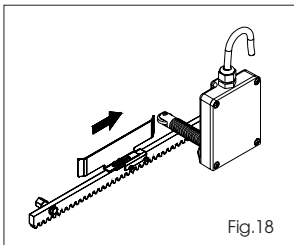

Fig.18
- 5) Allow the plate to slide over the rack in opening direction (Fig. 18). As soon as the opening limit switch LED on the control board goes off, take the plate forward by about 20±30 mm and secure it provisionally on the rack, using the supplied screws.